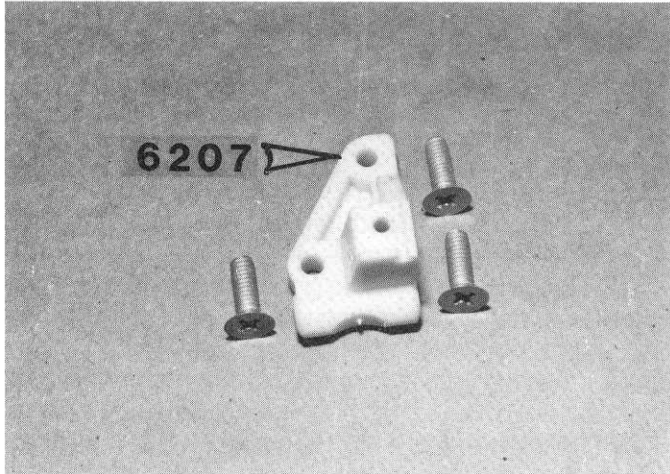

Fig. 5
□ **Fig. 5** In Bag #6-1, take out the left hand front suspension mount #6207. This mount will have the letter L on the bottom. The left or right hand side of the car is determined by the driver as he sits in the car. His left hand will be the left side of the car and his right hand the right side.